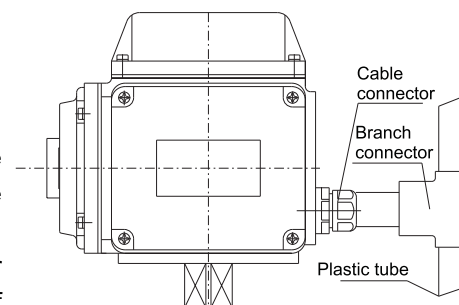
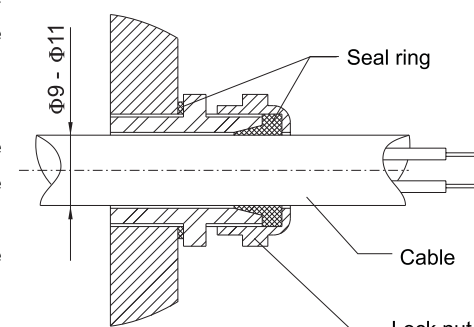

Fig. 1
Fig. 2
- Refer to Fig.1 when installing pipes.
- ① The outer diameter of the pipe shall be  $\Phi 9\sim\Phi 11$ .
- ② Waterproof shall be fully adopted.
- ③ The electric actuator shall be allocated higher than the pipe, so water in the pipe will not flow into the unit and the safety of the unit can be ensured.
- The outer diameter of the cable shall be  $\Phi 9\sim\Phi 11$ , refer to Fig. 2. No cable, which is not fit to the inner diameter of waterproof cable connector, is allowed to use. Otherwise, water may enter into the unit through the connector to damage the parts inside actuator.